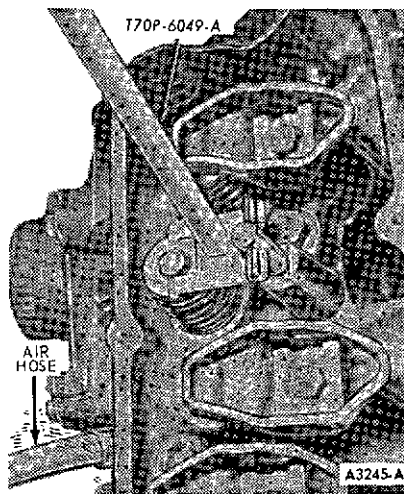
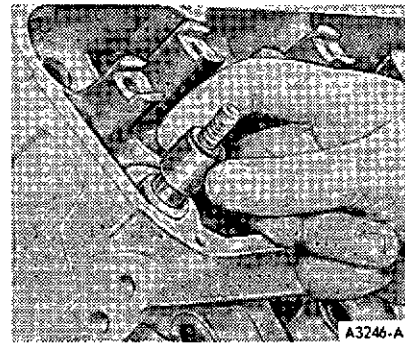

FIG. 35 Compressing Valve Spring-In Chassis
FIG. 36 Removing or Installing Valve Stem
- Install Tool T70P-6049-A (Figure 35) and compress valve spring. Remove retainer locks, spring retainer, and spring. Remove and discard valve stem seal (Figure 36). If air pressure fails to hold valve in closed position, valve damage affecting sealing is indicated. Remove and inspect cylinder head assembly.
- Lubricate the valve stems with heavy engine oil SE. Install new valve stem seal (Figure 36). Set spring and retainer over valve stem. Compress valve spring (Figure 35) and install retainer locks. Release spring and remove tool.